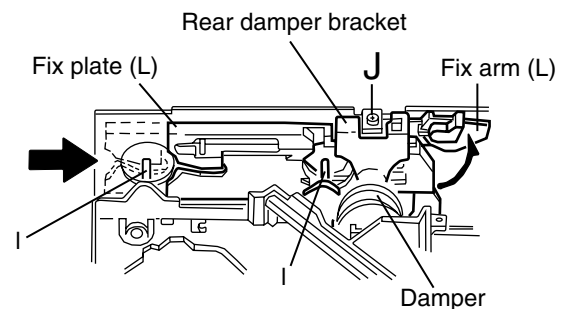

Fig.8
- 2. Raise the both sides fix arms and move the fix plates in the direction of the arrow to place the four shafts I as shown in Fig.8 and 9.